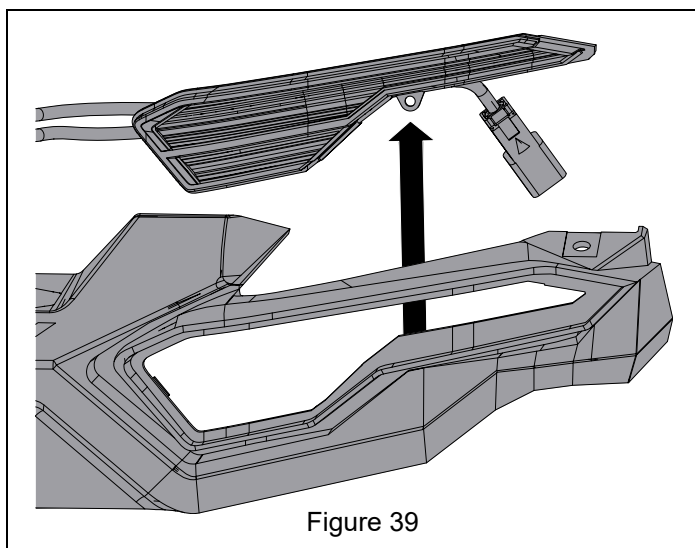

Figure 39
3. Remove one socket cap screw attaching headlight to bracket. See Figure 39.
1. Install new headlight on bracket and secure with one socket cap screw removed previously. See Figure 39.
Install headlight assembly. See Figure 39. Tighten four machine screws